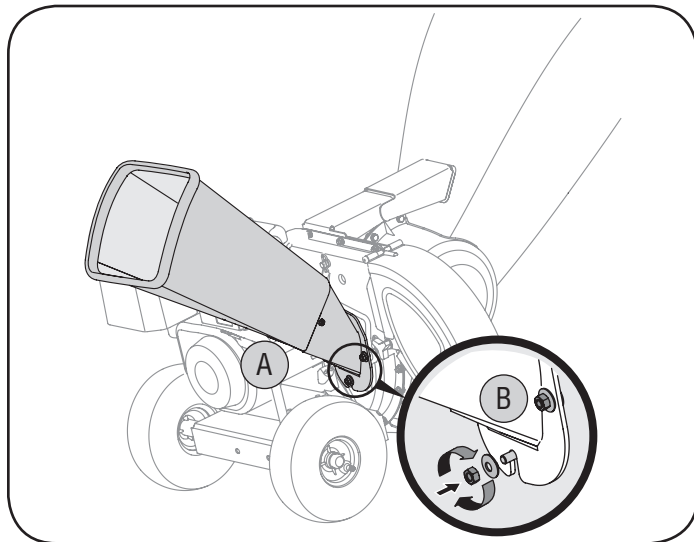

Figure 6
- Align the chipper chute over the weld studs, so the slot in the bottom of the chute is facing down. See Figure 6.